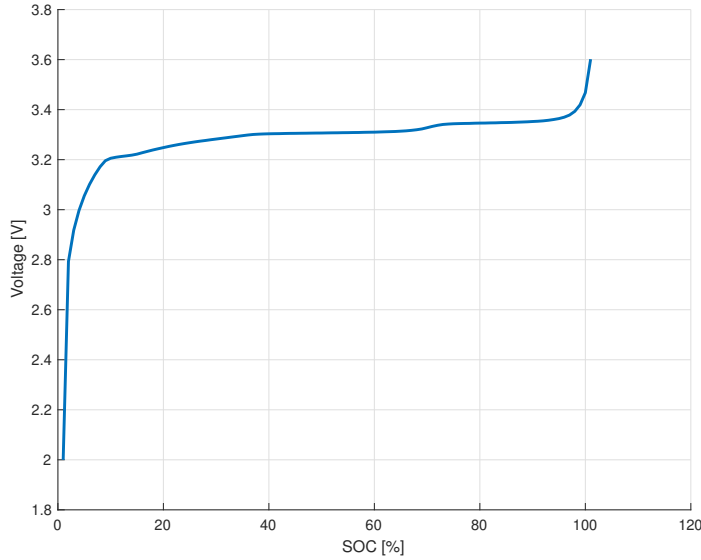

Figure 4.2: OCV vs SOC
- a) The OCV as a function of SOC is shown in Figure 4.2. It is possible to see that the voltage curve is almost flat, which makes it difficult to